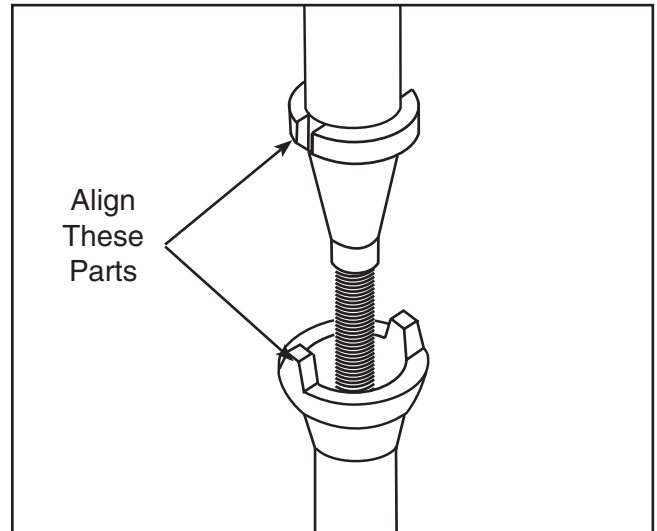

Figure 8. Installing spindle into the cartridge.
3. Drop the spindle/drawbar into the spindle cartridge at the top of the table. Line up the notches at the top of the spindle cartridge with those in the spindle as shown in **Figure 8**. You will feel the spindle seat itself.